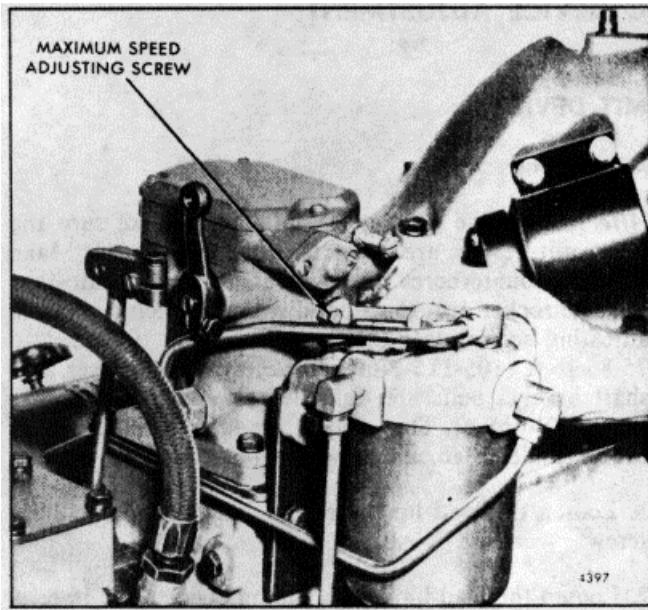

Fig. 19. - Adjusting Maximum No-Load Engine Speed
2. Turn the maximum speed adjusting screw (Fig. 19) in until the screw contacts the throttle linkage internally, limiting the maximum speed of the engine at 8% above the rated full load speed.